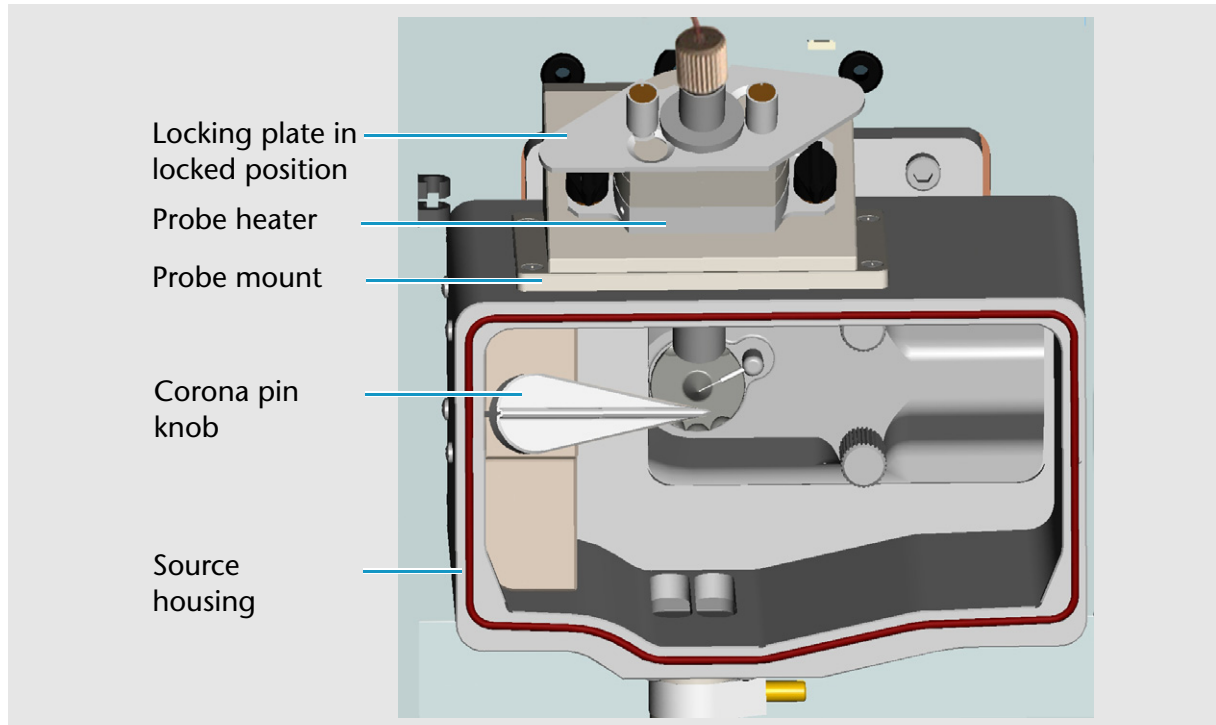

Fig. 30 MSQ Plus Mass Detector setup for the APCI mode
7. Turn the locking plate on the APCI probe clockwise to the open position. Insert the APCI probe into the probe heater, as shown in Figure 30. Then, turn the locking plate counter-clockwise to the closed position.
Figure 30 shows the MSQ Plus Mass Detector setup for the APCI mode. Figure 31 shows the corona pin in the operational position for the APCI mode.